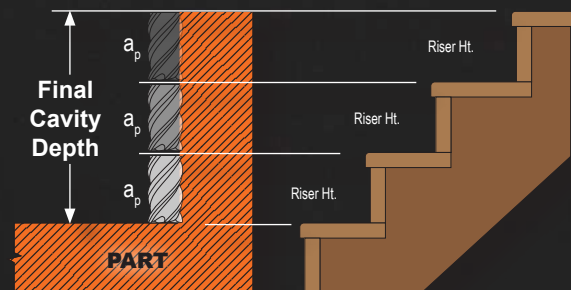

Fig. 3 - An example of reduced neck (RN) step down milling
We may safely utilize a length of cut (LOC) up to four times the diameter (4xD) with HEM roughing. Furthermore, there are no issues whatsoever when we go between roughing and finishing with the same tool. Nevertheless, in the absence of a dynamically driven tool path (High Efficiency Machining, aka HEM), it is advised to employ a reduced neck tool (RN) in conjunction with the most precise tool holder, as illustrated in figure 3. Cut to an axial depth of 1.5 times the tool diameter (1.5xD) while maintaining a considerable radial depth of cut ( $a_e$ ). This will guarantee maximum efficiency by controlling the metal removal rate (MRR) and simultaneously maximizing your productivity.